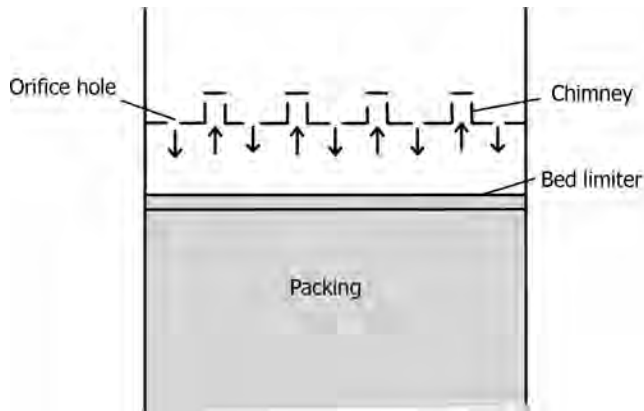

FIGURE 16.27 Orifice plate liquid distributor.
- A typical orifice type liquid distributor is illustrated in Figure 16.27.